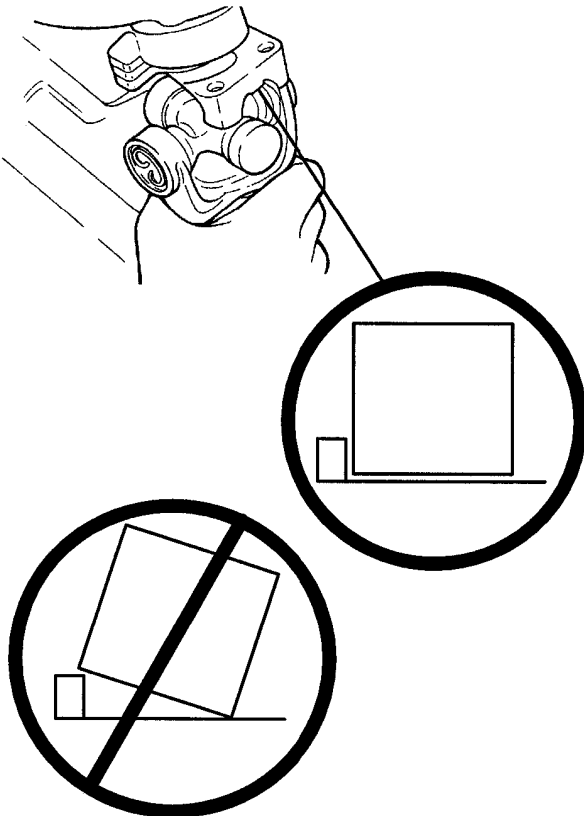

Figure 32 Make Sure Bearing Caps are Seated Correctly
4. Make sure bearing caps are seated correctly (Figure 32).